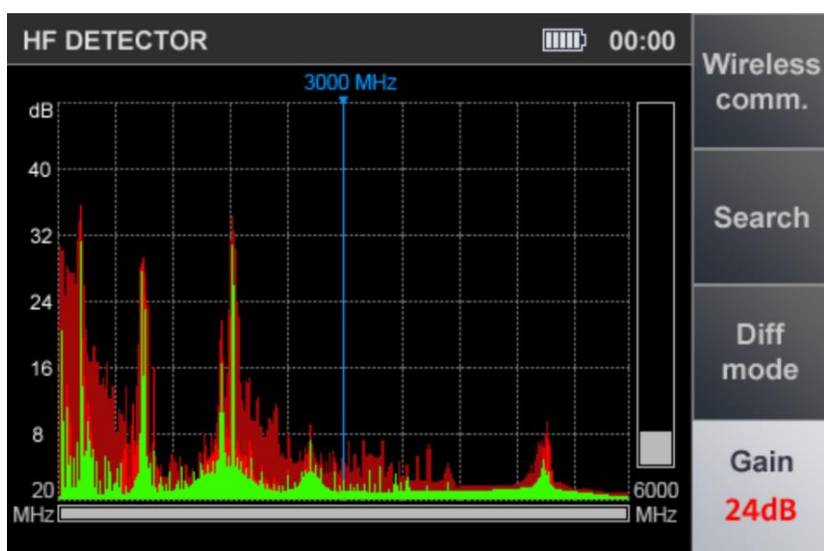

Fig.10
- Use the keys to set the gain in dB (0, 8, 16, 24, 32, 40). The gain value will be shown in the corresponding screen field (fig.10).